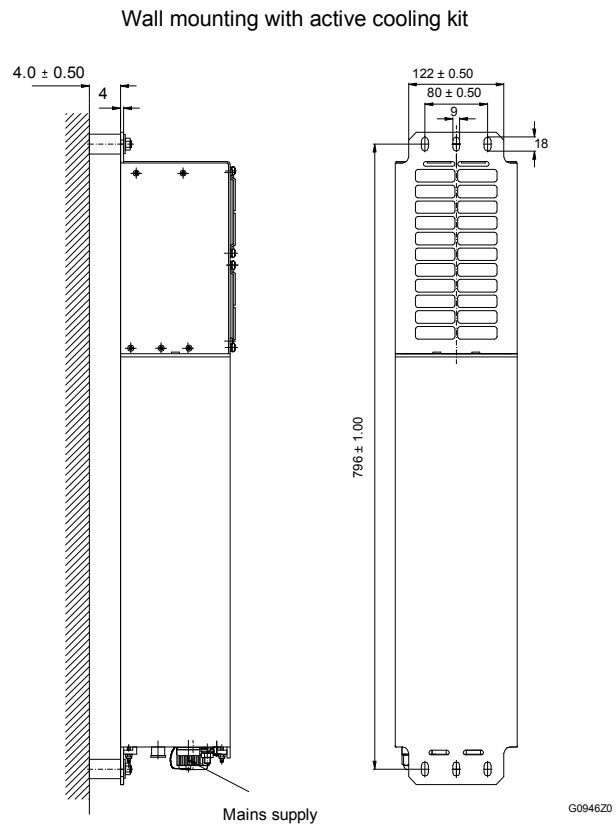

figure 4-1 Wall mounting, (metric dimensions)
- Mark the position of the drilling holes (for measurements refer to figure 4-1 Wall mounting). Drill four holes at the marked positions and insert dowels *.